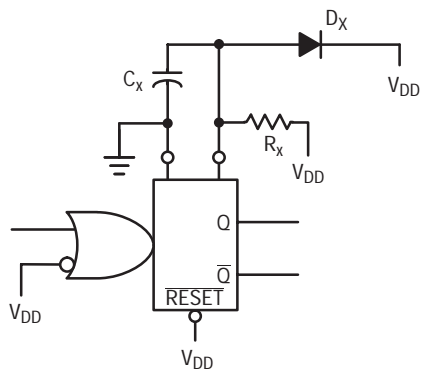

Figure 9. Use of a Diode to Limit Power Down Current Surge
7. If $C_X > 15 \mu\text{F}$, Use Discharge Protection Diode D_X , per Fig. 9.